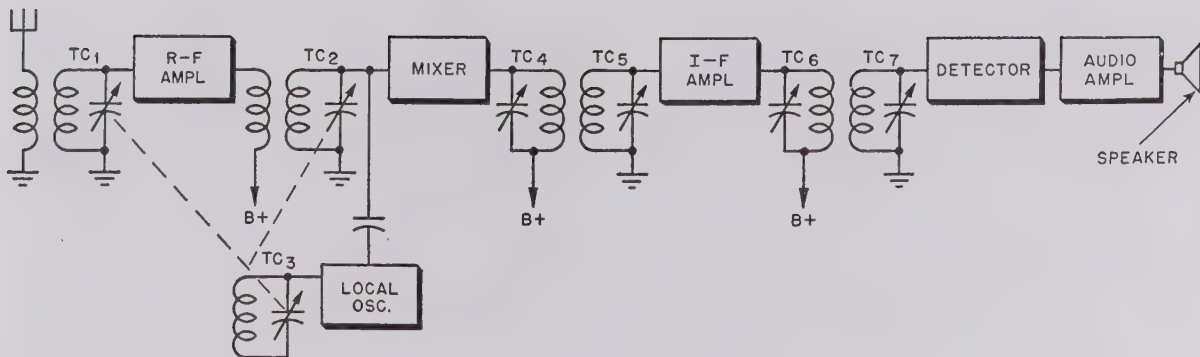

Figure 9. Outline of typical superheterodyne receiver showing tuned circuits.
- (3) The plate current is controlled by the r-f signal on the control grid. Therefore, the current arriving at the plate is an r-f signal that lasts for the period of the positive square wave. The pulses then can be fed to one or more amplifier stages. The duration of the pulses and the number of pulses per second are varied by controls in the square-wave circuit.
- (4) Pulse-modulated generators are useful in checking the performance of many kinds of radar receivers, since these sets usually send and receive signals in pulse form.
b. SUPERHETERODYNE OPERATION. The superheterodyne receiver generally is used for a-m and f-m reception. A brief review of the operation of a typical a-m superheterodyne receiver (fig. 9) is offered to clarify the requirements for alinement. Incoming signals strike the antenna and set up magnetic fields around the r-f amplifier TC_1 . The tuned circuit in TC_1 selects the desired r-f signal and prevents other signals from reaching the next stage. The selected signal then is amplified in the r-f stage and pro-